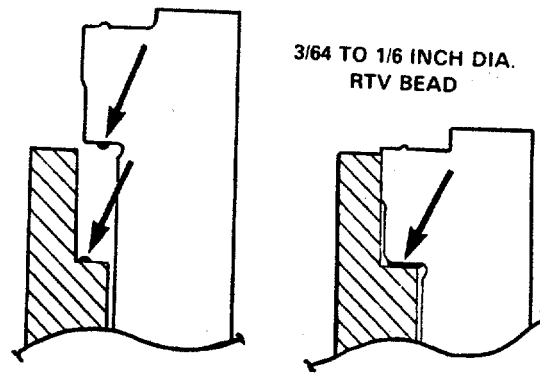

FIGURE 4-52. *Applying Sealant to Liner.*
- (c) Apply a bead of RTV type sealant on either the cylinder block counterbore or the liner flange. The liner must be installed within 5 minutes after the sealant is apply (Figure 4-52).